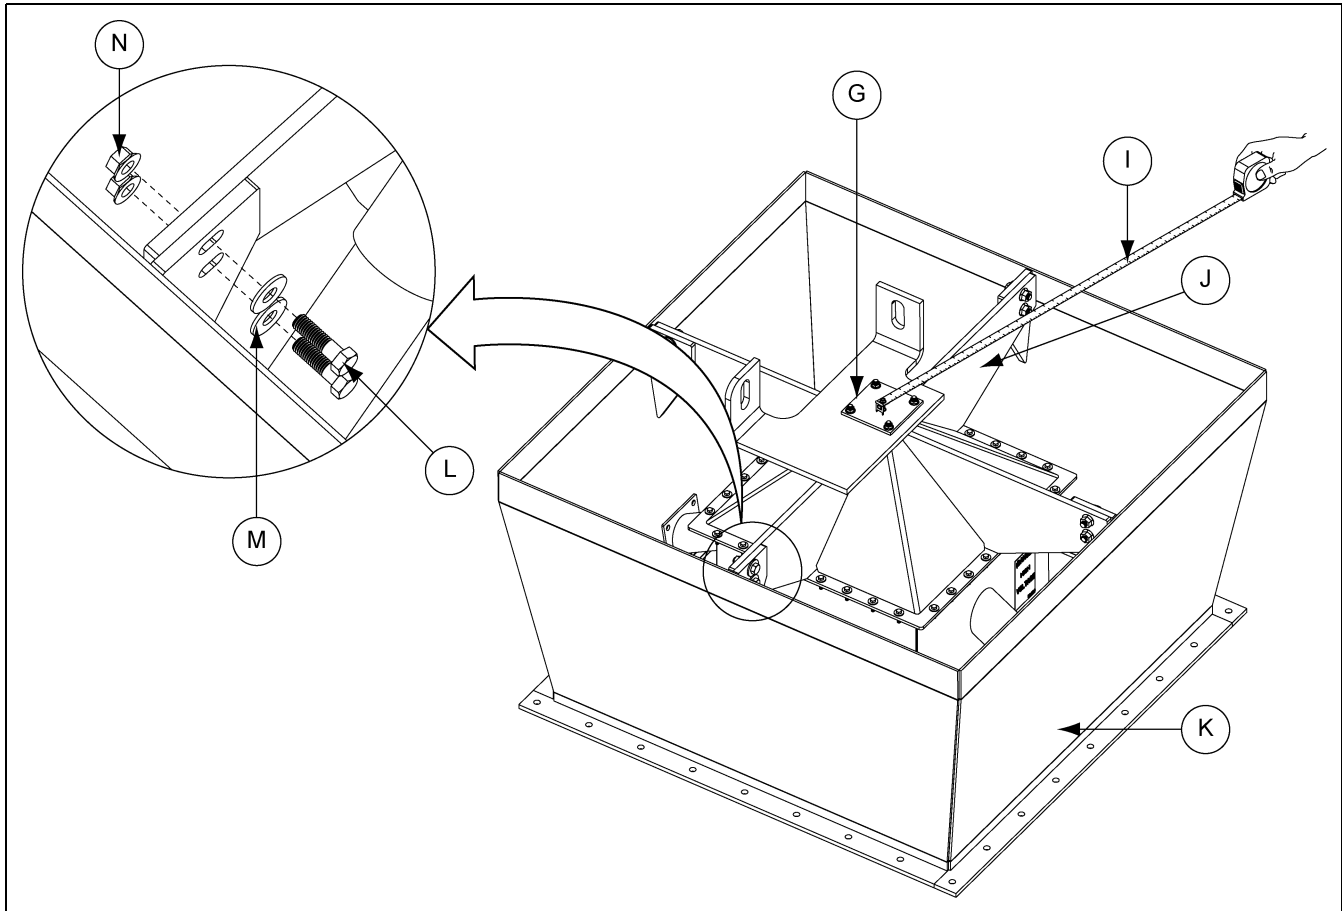

Figure 5B
5. Install the cross brace assembly (J) into center well (K). Temporarily attach cross brace flanges to center well using hex bolts (L), flat washers (M) and flange nuts (N). *(See Figure 5B.)*